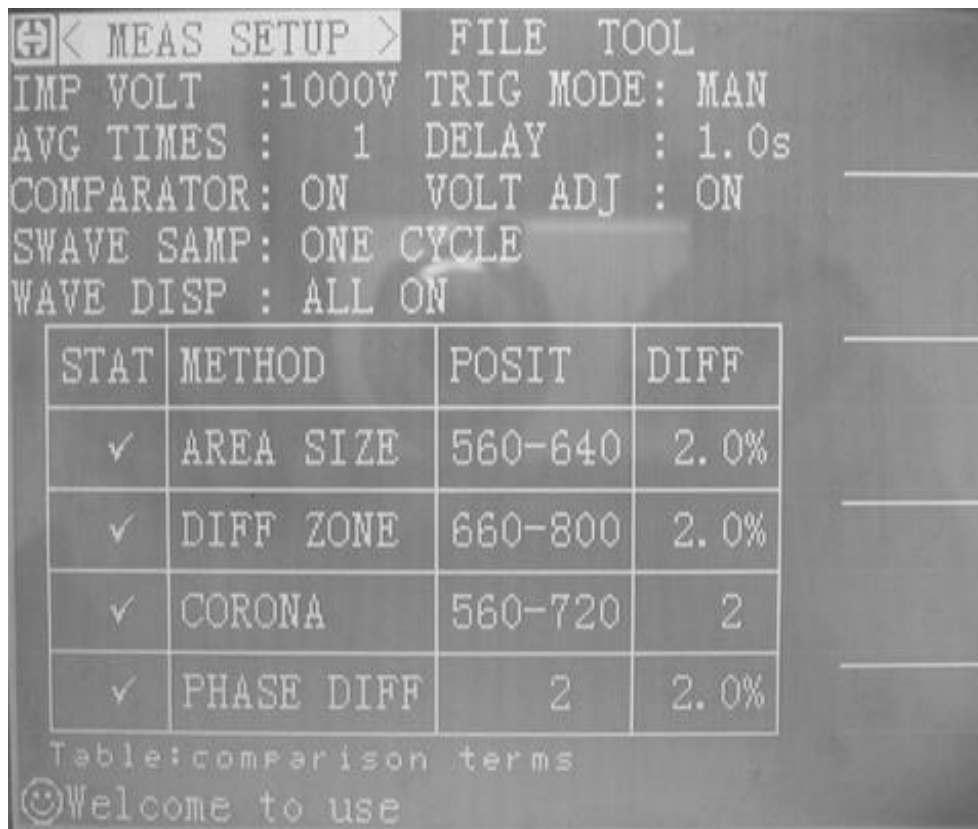

Figure 2-4 MEAS SETUP Page
- 1) Press **SETUP** menu key, <MEAS SETUP> page will be displayed as shown in Figure 2-4.